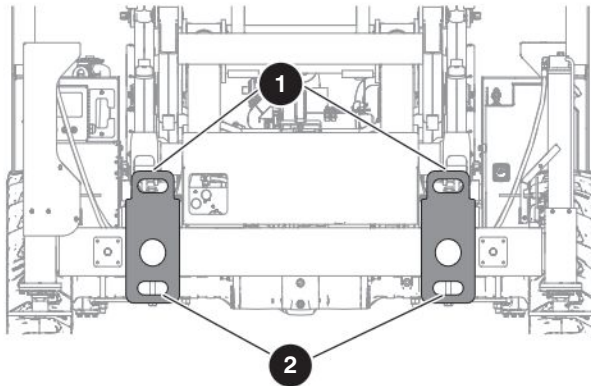
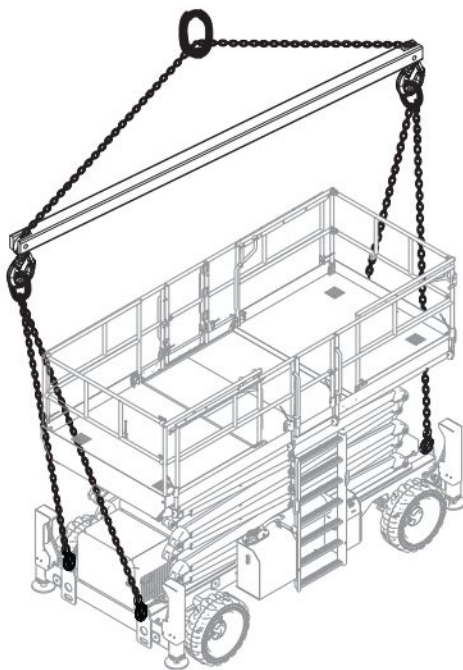

Figure 09 Lift and tie-down points
Figure 10 Appropriate method to hoist
- Attach the rigging to all **four lift points** ①. Refer to Figure 09 and Figure 10.
When you transport the MEWP, it must be attached to a truck or trailer deck. Use the available tie-down points  to attach the MEWP. Refer to Figure 09 If you do not obey, there is a risk of death or serious injury.
- Tie-down the MEWP to the transport vehicle using the four tie-down points . Refer to Figure 09.